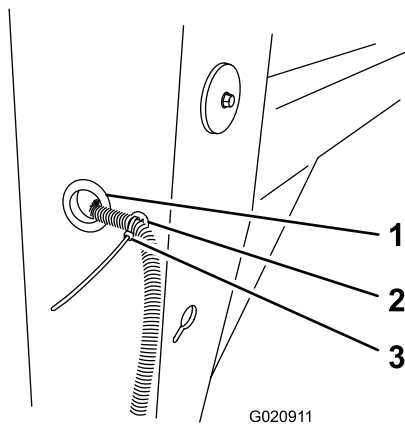

Figure 11
5. Pull the front end of the wire harness out through the hole in the front post of the machine so that there is about 61 cm (24 inches) of slack beyond the front of the installed tow pole (Figure 11).
6. Slide the grommet over the 4-pin connector (Figure 12) on the front of the wire harness, and install it in the hole in the front post (Figure 11).